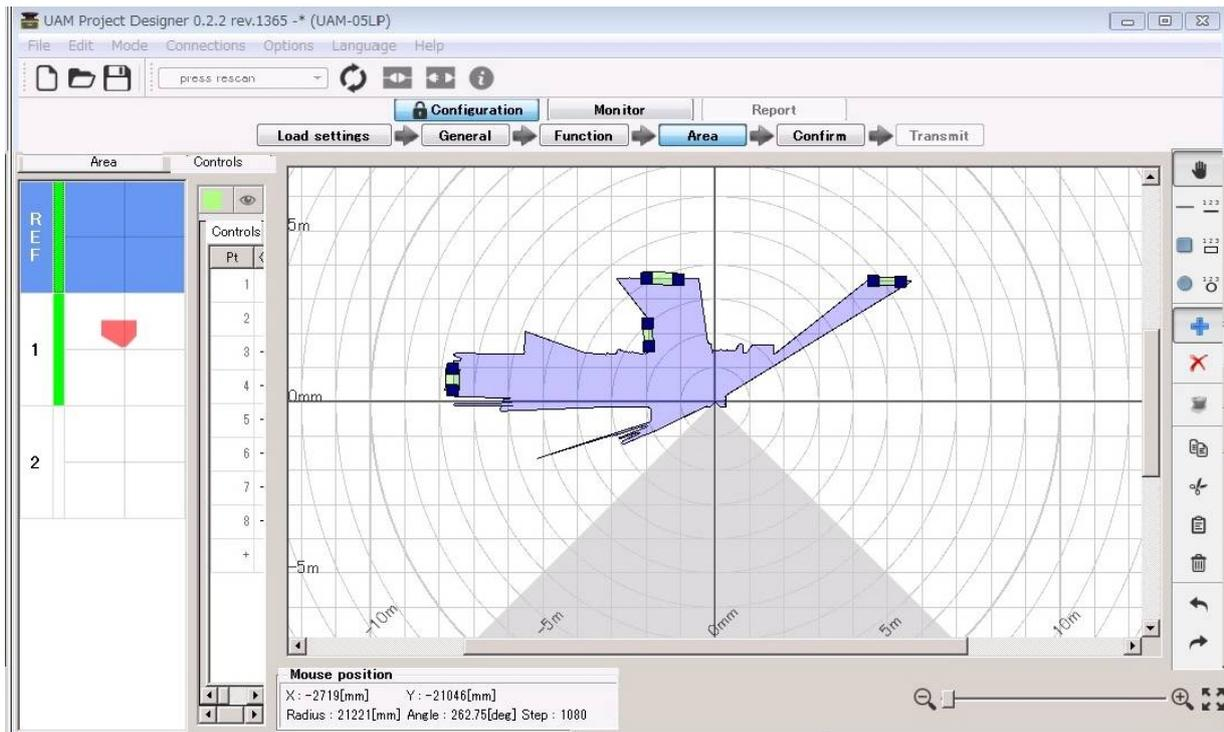

Figure 7-47 Reference region configuration example
- Main screen displays the configuration for reference region (Figure 7-47). First area on the preview indicated by “REF” represents the reference area.
For example, to monitor the sensor's displacement by referring the background, choose the line drawing tool and draw a line segment over the background by mouse drag and drop. Reference region with the  $\pm$ tolerance is generated on that location (Figure 7-47).